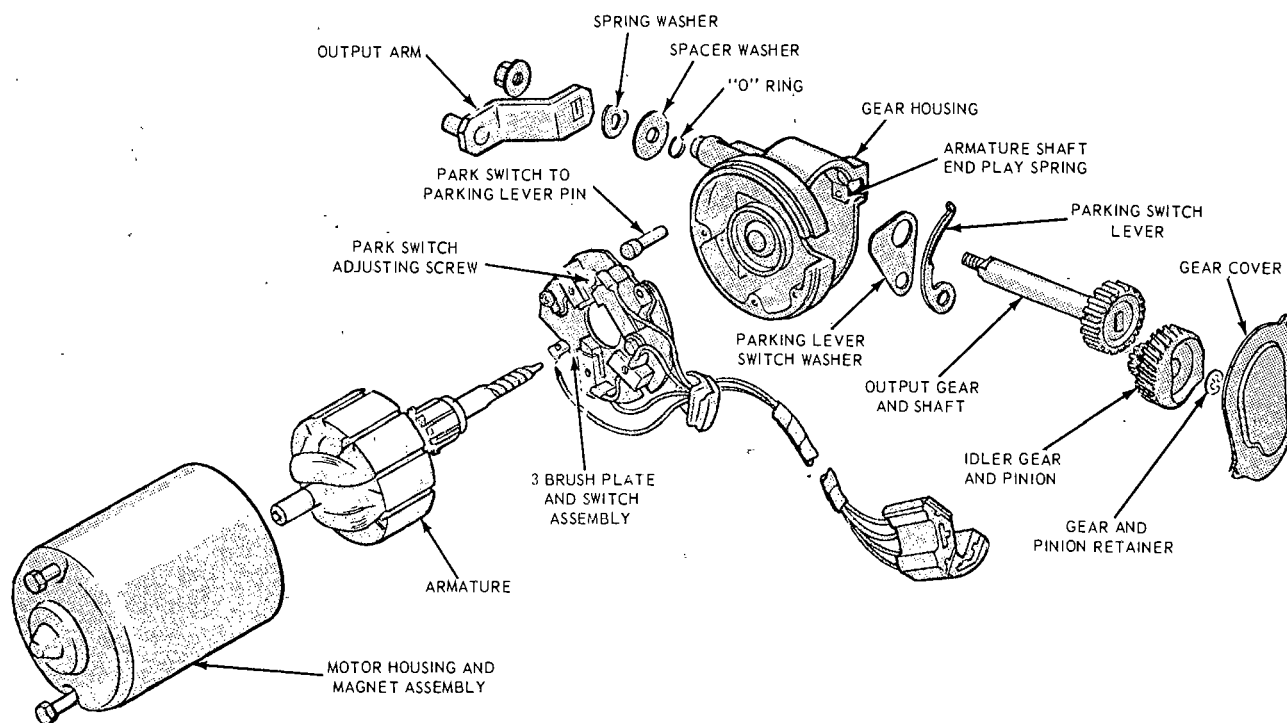

FIG. 16—Disassembled Wiper Motor
1. Remove the gear cover retaining screws, ground terminal and cover (Fig. 16).